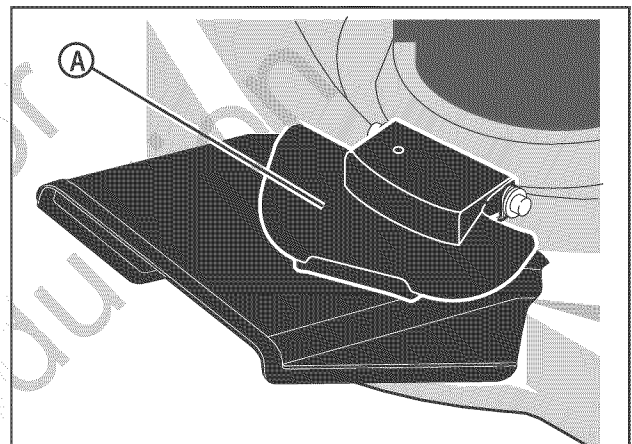

Figure 10: Releasing the mulcher cover
4. Lower the mulcher cover (A, Figure 10).